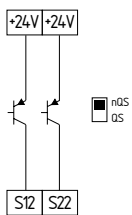

Fig. 13
**Dual-channel control of a safety-related electronic (microprocessor-based) safety guard with p-type transistor outputs e.g. AOPD's to IEC 61496 (Fig. 13)**